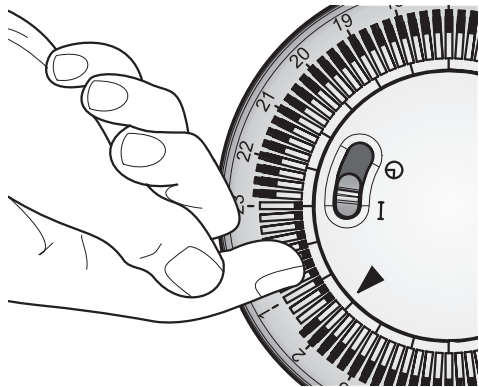

Fig. 7
1. Using your finger tip or the tip of a pencil, push in as many segments as necessary around the dial, according to the times you don't require heat – see Fig. 7. Each segment pushed in switches the heater OFF for that part of the hour. All other segments will be ON. For example, Fig. 7 shows the timer set to switch the heater OFF between 11pm and 1.45am.
Check that the clock shows the correct time of day. Set the mode slide switch to **O**, the heater will switch ON and OFF according to the timer settings (see Fig. 7).